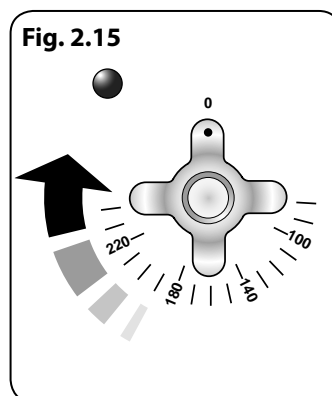

Fig. 2.15
1. Turn the oven knob to the desired temperature (**Fig. 2.15**).